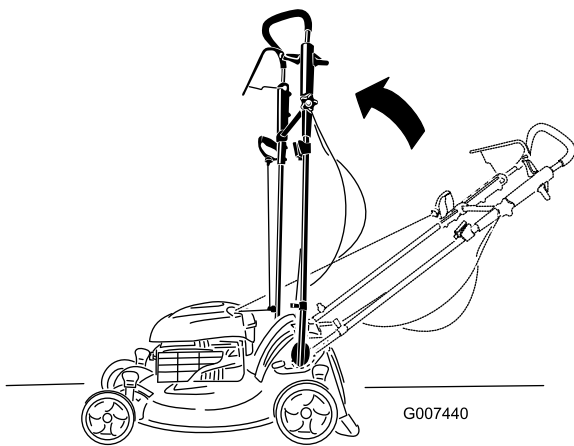

Figure 48
2. Move the handle to the upright position (Figure 48).